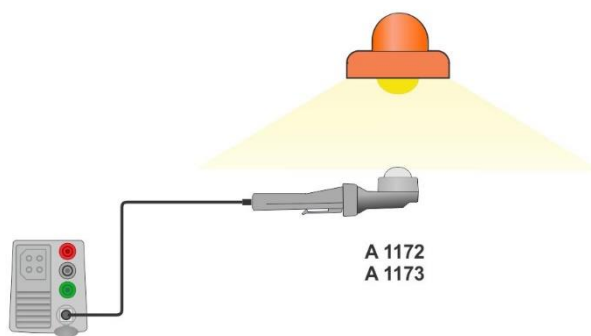

Figure 7.122: LUXmeter probe positioning
- › Take the position of LUXmeter probe, see **Figure 7.122**.